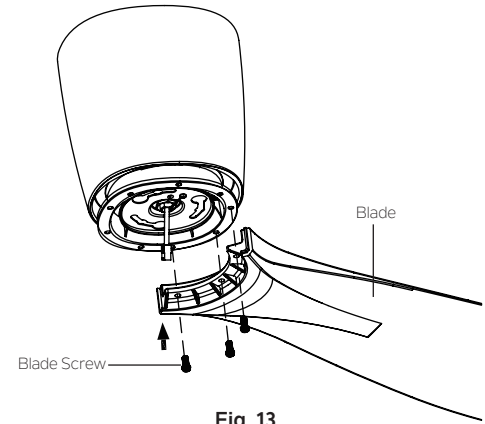

Fig. 13
**Step 1:** Attach the fan blades to the flywheel using the blade screws and tighten them securely. (Fig.13)